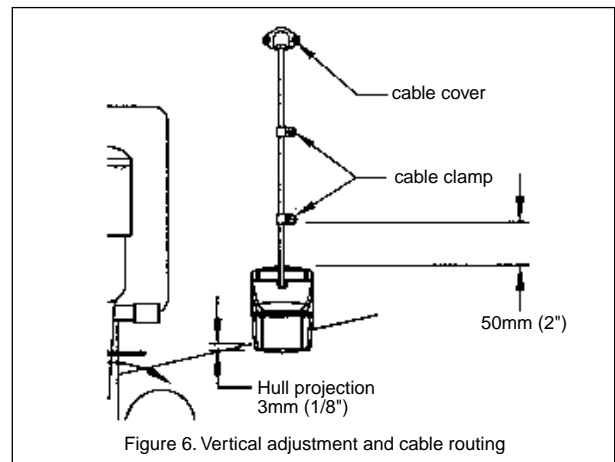

Figure 6. Vertical adjustment and cable routing
- Using the vertical adjustment space on the bracket slots, slide the sensor up or down to provide a projection of 3mm (1/8"). Tighten the screws (see Figure 6).
- On the outside of the hull secure the cable against the transom using the cable clamps. Position a cable clamp 50mm(2") above the bracket and mark the mounting hole with a pencil (see Figure 6).